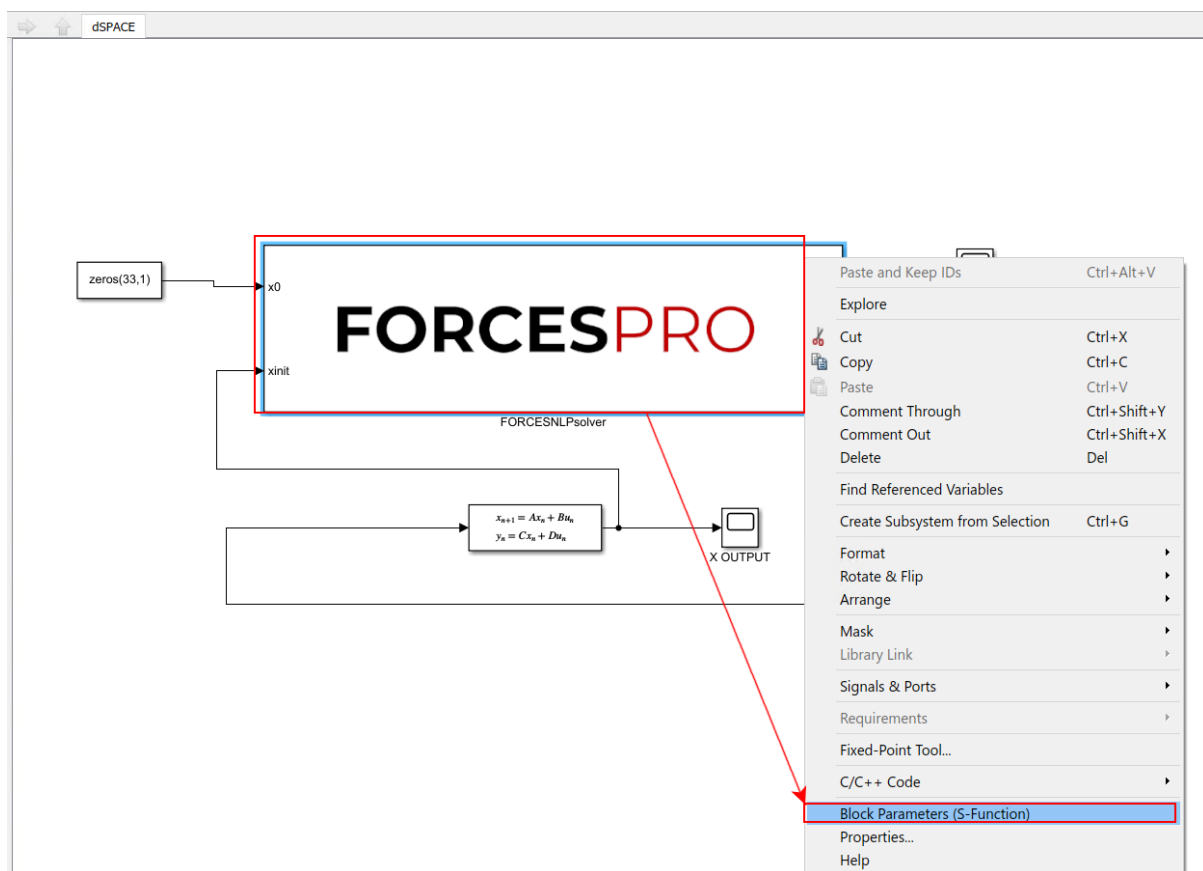

Figure 13.42: Open the FORCESPRO block's parameters.
- 13) Access the FORCESPRO block’s parameters (see Figure 13.42).